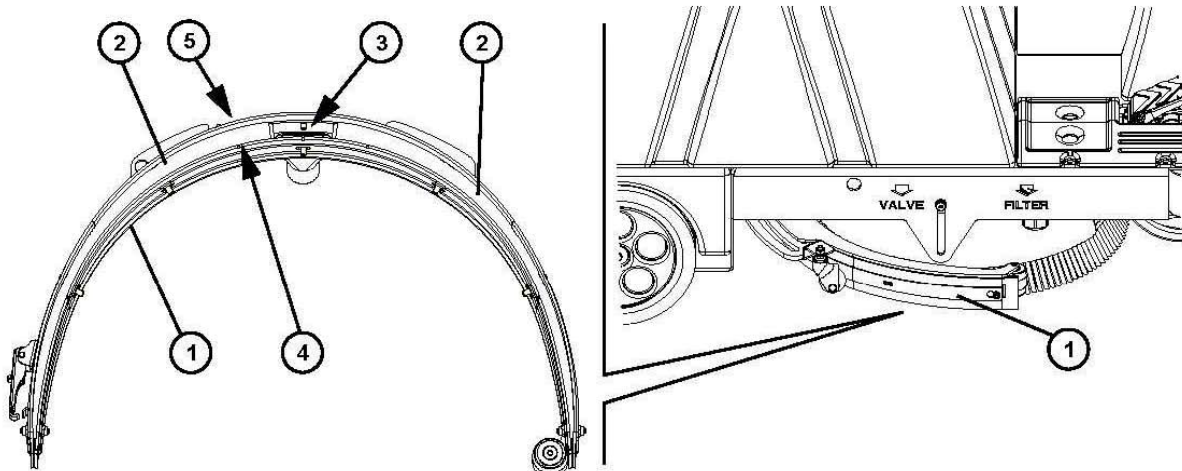

Figure 8-5
2. Wash and clean the squeegee(1, **Figure 8-5**); in particular clean dirt and debris from the compartments (2) and the hole (3). Check that the front blade (4) and the rear blade (5) are undamaged and have no cuts or tears, otherwise replace them (see the procedure below).